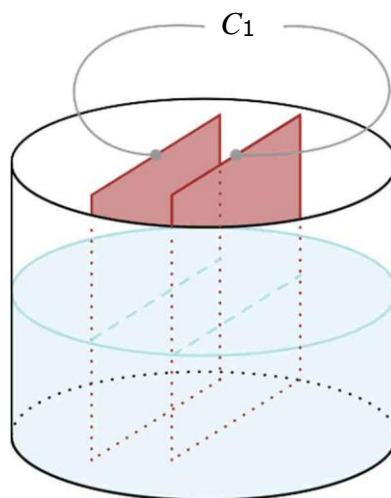

Figure 2: Two Parallel Plates in a Cylindrical Tank.
**Step 1:** Take a 5 liter plastic bottle and cut its upper section to create a tank as exemplified in Figure 2. Measure the exact height of your tank. Take two pieces of metal plates that you can submerge into water with a fixed plate separation. (You may glue a plastic spacer between the plates so that the distance is fixed.) Firstly, calculate theoretically the capacitances at home when the tank is empty and full water in between the plates. In laboratory, you will measure the capacitances of the plates for two cases (empty and full cases) with given described method below (see Section 3). Please fill in the blanks given below with your measurements: